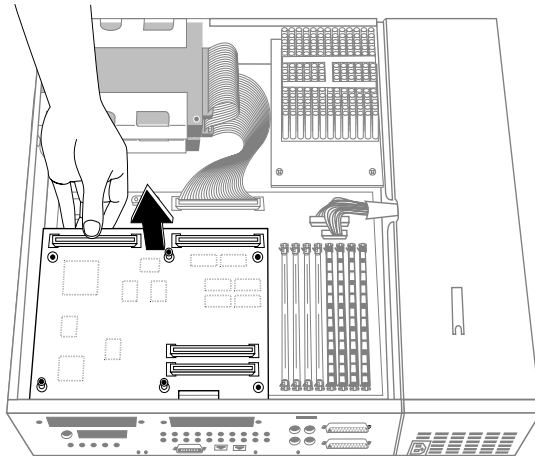

Figure 8-10 Disconnecting the Graphics Board From the System Board
10. Disconnect the graphics board from the system board, as shown in Figure 8-10.